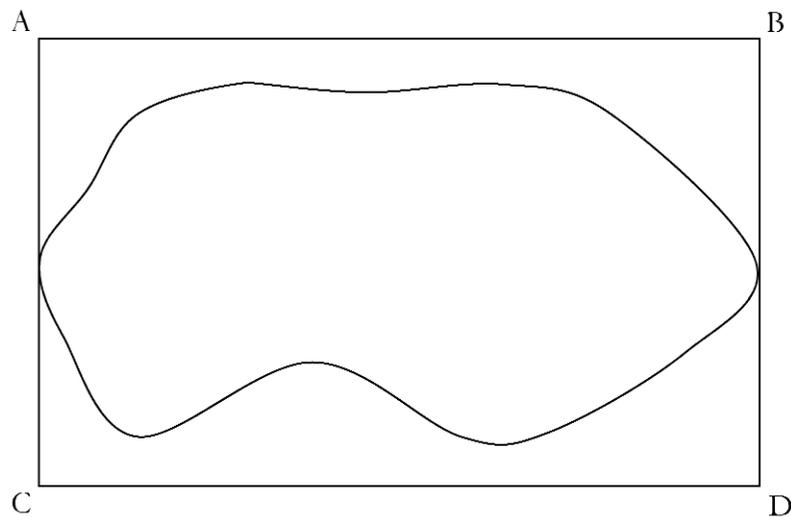

Figure 2.6 Sample diagram of a pond outline.
Step 1. Construct a rectangle around the area to be measured (Fig. 2.6). Label the corners A, B, C and D and determine the length and width.